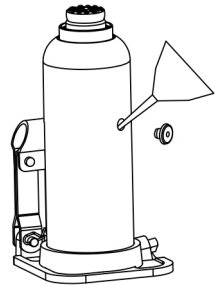

Fig. 4
4. Fill the cylinder with a high quality hydraulic jack oil, up to the oil plug opening (Fig. 4).